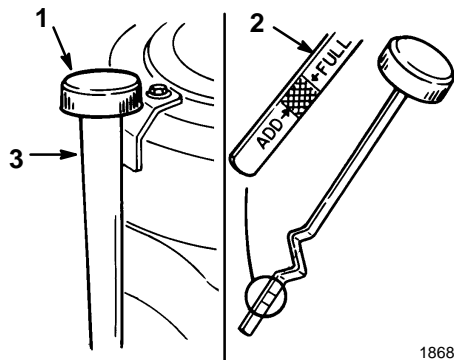

Figure 31
3. Clean around the oil dipstick (Fig. 31) so dirt cannot fall into the filler hole and damage the engine.
4. Unscrew the oil dipstick and wipe the metal end clean (Fig. 31).
5. Screw the oil dipstick fully onto the filler tube (Fig. 31). Unscrew the dipstick again and look at the metal end. If oil level is low, slowly pour only enough oil into the filler tube to raise the level to the “FULL” mark.
7. Slowly pour approximately 80% of the specified amount of oil into the filler tube (Fig. 31). Now check the oil level; refer to Checking Oil Level, page 31, steps 4–5.
5. Slowly pour approximately 80% of the specified amount of oil into the filler tube (Fig. 31). Now check the oil level; refer to Checking Oil Level, page 31, steps 4 and 5.